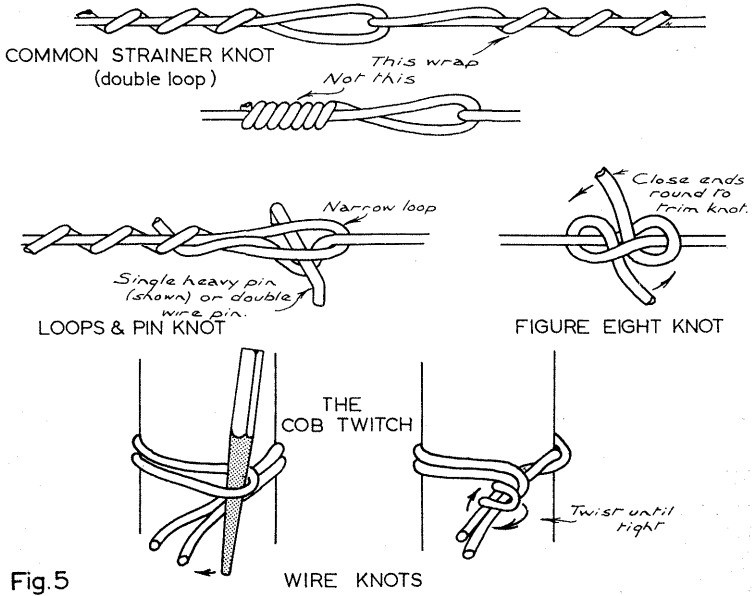
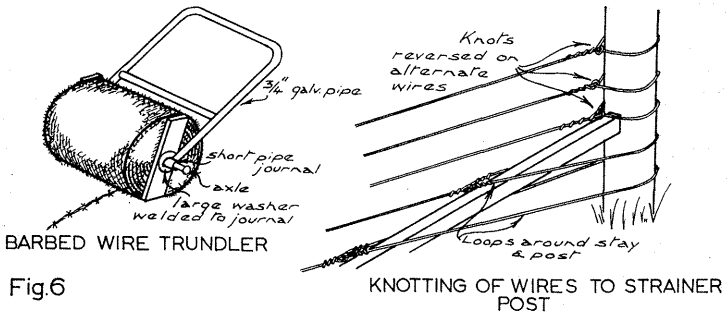

Fig.5
Fig.6
Run the barbed wire between strainers. One man can do this if a stirrup and pin have been made so the barb coil can be trundled. (See Fig. 6.) Otherwise two men and a crowbar axle are needed. Care must be taken—this is a dangerous job on broken ground.
**Running wires.** With tie-down in place, the rest of the wires can now be run downhill, or to each end from the straining point, and tied off to the strainers at each end. Wherever a knot is formed in which the free end of the wire is wound back along the running wire (loop knot, strainer knot), the free end should be wound with its loops spread out along the wire. (See Fig. 5.) That is, with the loops not tight against each other as happens when a key is used for the job. When the loops are tight, if the knot is to be unwound for maintenance purposes and the wire has aged, the loops break off in a body and removal is extremely difficult. This applies also to tying on the barb. A 'loose' wrap of loops can be done with the hand and if well done will not unwind under strain, but can be readily undone later without breaking. The standard locking knot should be used at the strainer and its direction around the post altered with every consecutive wire so that there is no tendency to twist the post with all running wires coming off the one side. (See Fig. 6.) The knot should be closed up as tightly to the post as possible. Knots in the line of the fence should be of the simple figure-eight pattern, care being taken to see that there is enough room for movement left so that the knot does not come up against a standard when strained.